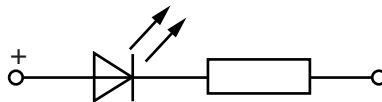

Fig. 2.2
- The 1 $\text{k}\Omega$ resistor should be soldered to the negative lead of the LED. The combination should be provided with terminals suitable for the connecting leads, with the positive terminal clearly labelled, as shown in Fig. 2.2.